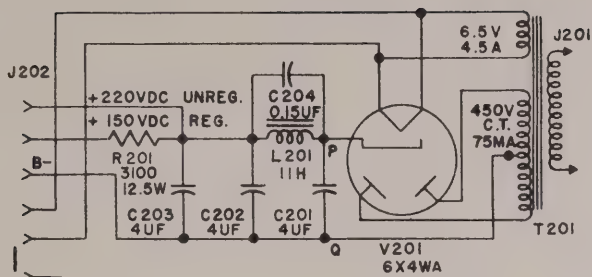

Figure 2-12. Simplified Schematic Diagram of the Power Supply PP-977/URM-25D
10. POWER SUPPLY PP-977/URM-25D (See figure 2-12).
a. The plate supply voltage derived from the high voltage secondary and rectifier tubes (points "PQ" on figure 2-12) is approximately 220 volts DC and must be reduced to the required 150 volts DC regulated supply for tubes V101 and V103. This voltage drop is achieved by the DC series dropping resistor (R201). A pi filter network consisting of a choke (L201) and three 4 microfarad capacitors (C201, C202, C203) is provided as a ripple filter. The two capacitors (C202, C203) are connected in parallel to increase the effective capacitance. A single 8 microfarad capacitor would introduce a problem of physical location. An additional 0.15 microfarad capacitor (C204) is inserted in parallel with L201 to form a 120 cycle resonant filter. This resonant filter lowers the 120 cycle power supply hum level.
tically constant. If the supply voltage (points "PQ" on figure 2-12) drops, the voltage across the glow tube (V108) would tend to drop. However, the gas in the glow tube deionizes slightly and less current passes through the tube. The current passing through the series DC dropping resistor (R201) is also decreased by the amount of this current decrease in the glow tube. This would develop sufficiently smaller voltage drops across the series DC resistor to maintain the required stable 150 volts drop across the glow tube. A rise in supply voltage is similarly compensated for.